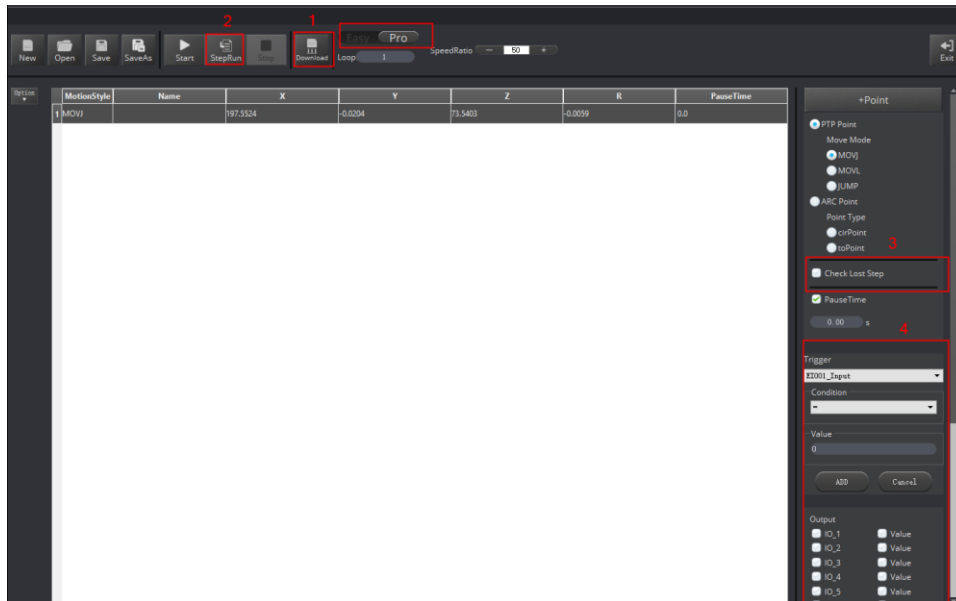

Figure 5.17 The Pro mode of the Teaching & Playback function
- **Pro** mode: To enter the **Pro** mode from the current **Easy** mode, click the **Easy/Pro** slider, as shown in Figure 5.17. Apart from all the functions in the default **Easy** mode, the **Pro** mode allows the robotic arm to run a save point each time, detect lost-steps, work in offline mode, and perform the multiplexed I/O interface. For details, refer to Table 5.9.